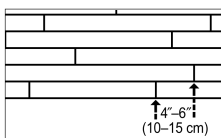

Figure 3
- Be attentive to staggering the ends of boards at least 4"-6" (10-15 cm), when possible, in adjacent rows (Figure 3). This will help ensure a more favorable overall appearance of the floor.